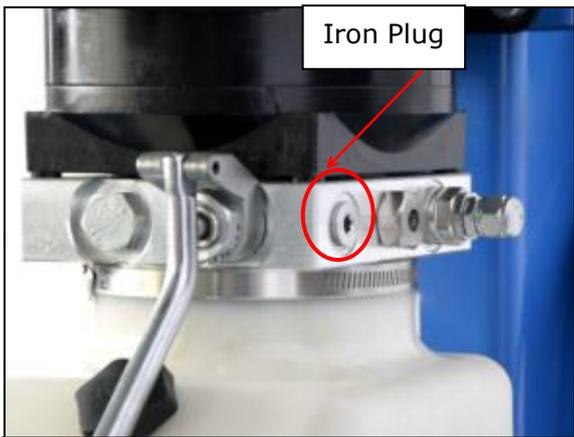

**Fig.31**
**2. OHX-10H Oil hose Installation (See Fig. 31).**